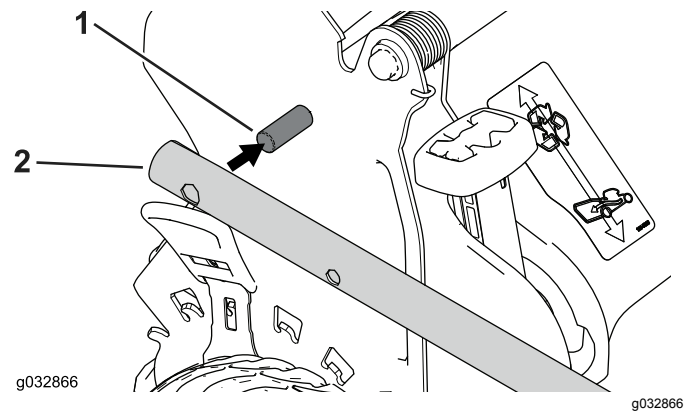

Figure 4
2. Install the handle ends onto the mower housing so that the pin attached to each handle bracket is in the lower hole of its related handle end (Figure 4).